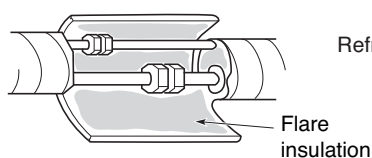
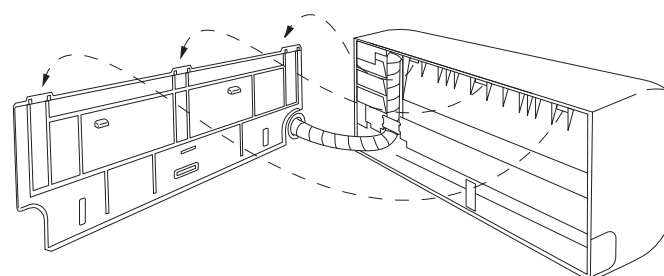

Fig. 37a
Fig. 36
- (2) Push the wiring, refrigerant tubing, and drain hose through the hole in the wall. Adjust the indoor unit so it is securely seated on the rear panel. (Fig. 36)
- (3) Carefully bend the tubing (if necessary) to run along the wall in the direction of the outdoor unit and then tape as far as the fittings. (See Caution on page 24.) The drain hose should come straight down the wall to a point where water runoff won't stain the wall.
- (4) Connect the refrigerant tubing to the outdoor unit. (After performing a leak test on the connecting part, insulate it with the tubing insulation. (Fig. 37a)) Also, refer to Section 5-4. Connecting Tubing between Indoor and Outdoor Units.